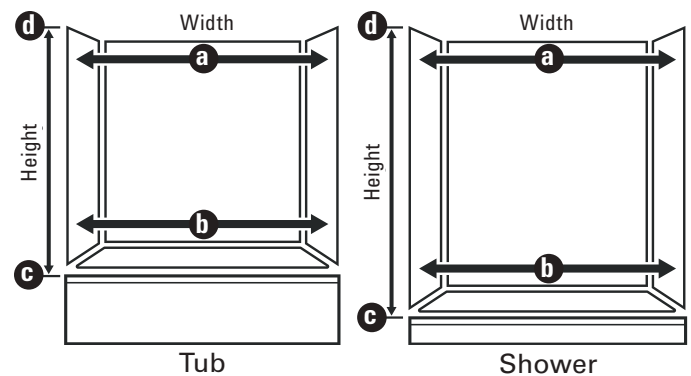

Figure 1
A. Before you remove the existing enclosure and all its parts, check that your newly purchased enclosure is the correct size (See **Figure 1**).